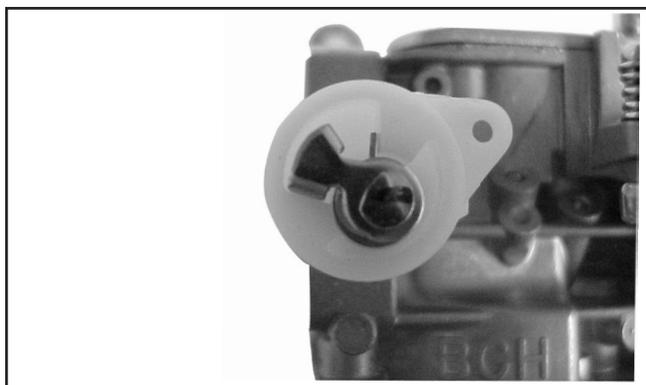

Figure 1.
4. Note the position of the spring legs and the choke plate for correct reassembly later. See Figure 1. Remove the two screws attaching the choke plate to the choke shaft. Pull the shaft out of the carburetor body and discard the removed parts.
- Slide the choke shaft and spring, into the carburetor. Pivot (preload) the shaft and set the inner leg of the spring, against the formed stop within the choke lever, as originally assembled. See Figure 1. The opposing leg of the spring must still be between the formed “stops” of the choke shaft.